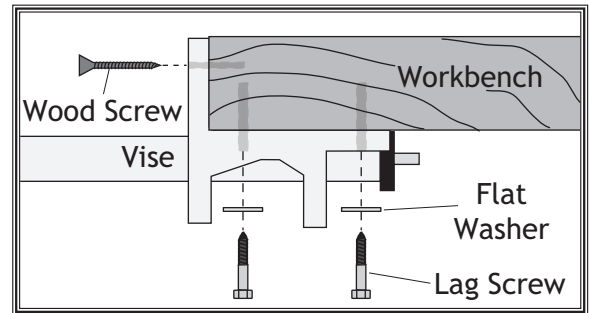

Figure 4. Attaching vise to workbench.
5. Attach the vise to the workbench with two #10 x 2" wood screws through the face of the vise jaw, as shown in **Figure 4**.
6. Secure the vise to the underside of the workbench with four 5/16" x 1 3/4" lag screws and 5/16" flat washers as shown in **Figure 4**.